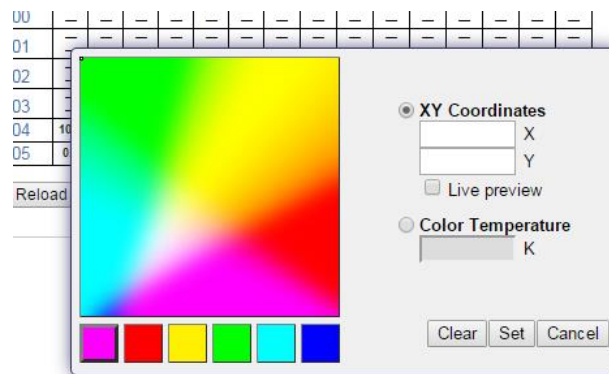

Figure 85: Scene colour selection for devices supporting colour type XY Coordinates.
- **XY Coordinates:** For devices supporting *XY Coordinates* a colour picker dialog as shown in Figure 85 appears when clicking on the lower value. Either manually enter the x and y coordinate of the scene colour within CIE 1931 colour space or pick the colour by clicking in the colour diagram on the left side of the dialog. When the check box **Live preview** is checked the ballast will dim to the selected colour whenever a new value is selected. The last six colour values used are shown in the history below the colour diagram for quick reference. If the ballast supports *XY Coordinates* and *Colour Temperature* the colour temperature value can be entered as alternative to the colour coordinates.